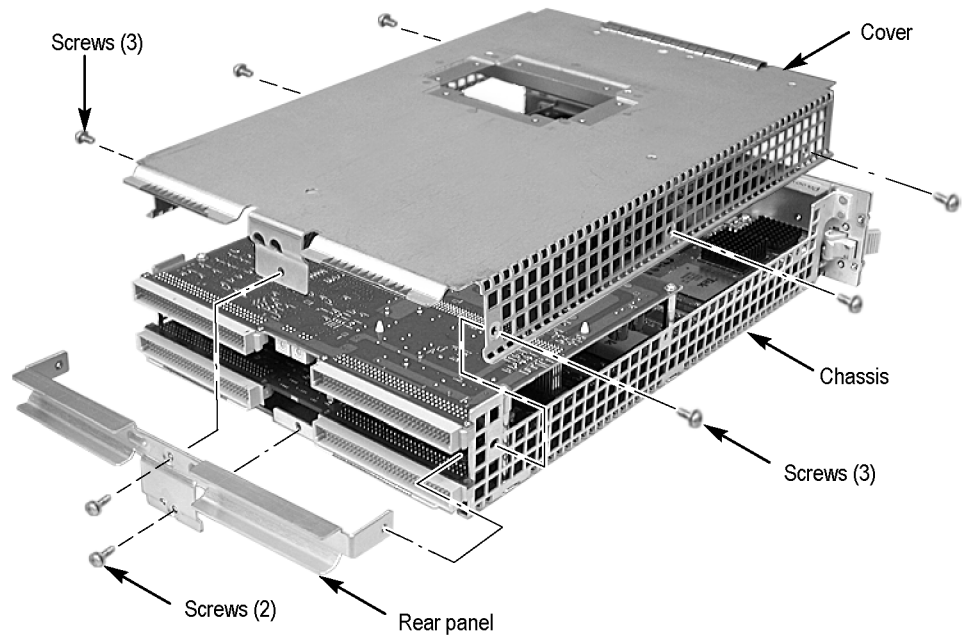

Figure 12: Cover removal
1. Place the module on the right side. (See Figure 12.)
1. Place the module on its right side. (See Figure 12.)